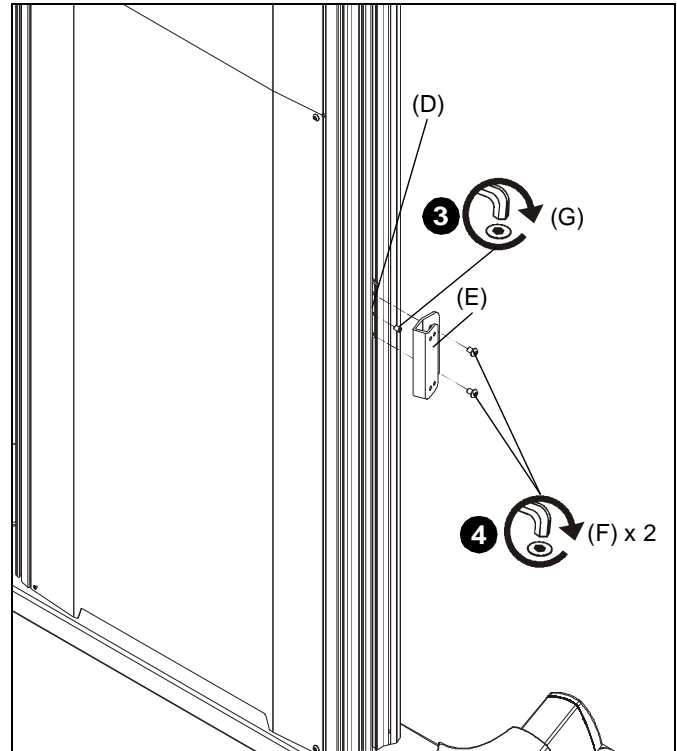

Figure 3
3. Install 1/4-20 x 3/8" set screw (G) into middle hole of accessory bracket (D). (See Figure 3)
4. Install two 1/4-20 x 3/8" button head cap screws (F) through upper and lower holes on adapter bracket (E) and accessory bracket (D). (See Figure 3)